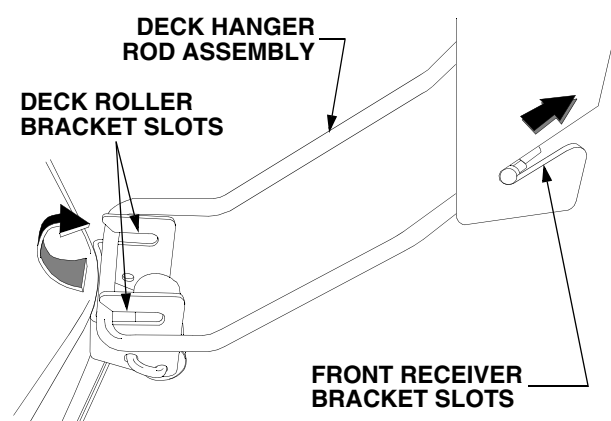

Figure 61
- Roll the deck forward to disengage the deck hanger rod from the slots of the deck front roller bracket. Lift the deck hanger rod and slide out of the slots in the front receiver brackets. See Figure 61. Store the deck hanger rod assembly with the deck to avoid misplacing it.
- While noting the forms (bends) in the rod are correctly positioned, slide the deck hanger rod into the slots in the front receiver brackets. Refer to Figure 61.
- From either side of the tractor, lift the deck hanger rod and roll the deck forward until the hanger rod aligns with slots of the deck front roller bracket. Lower the hanger rod into the front roller bracket slots and slide the deck rearward to engage the rod fully forward in the slots of the roller bracket. Refer to Figure 61.